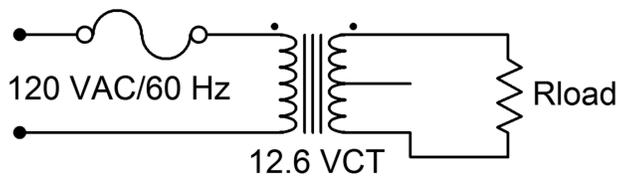

Figure 3
5. This section uses the 120 VAC line. Treat it with the caution it deserves. Connect the circuit of Figure 3 leaving  $R_{load}$  unconnected. Measure the secondary voltage with the DMM (AC Volts). Record the value in Table 3 under "Unloaded".